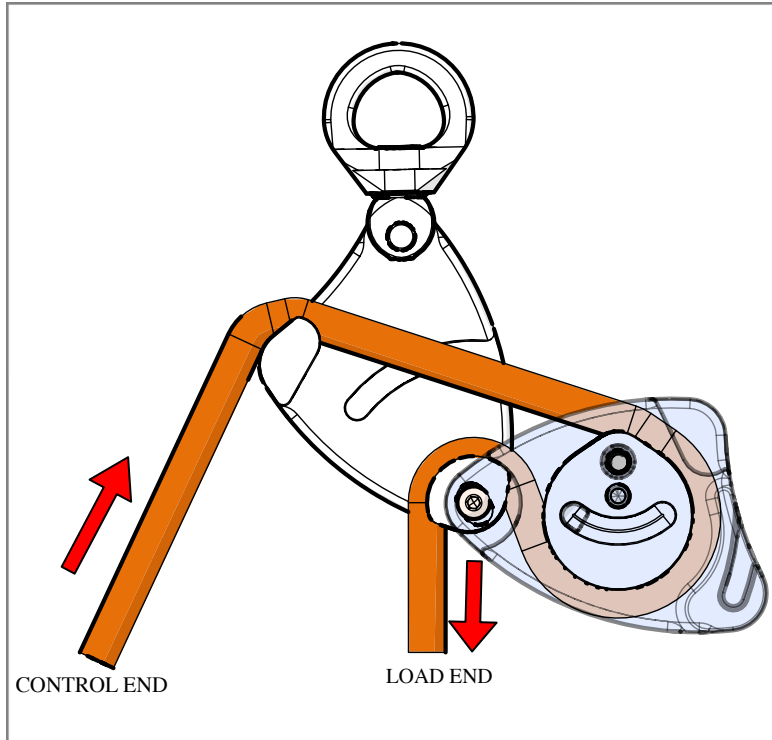

FIG.5
Configuration 2 (Fig. 5): The rope is threaded **over** the fairlead (4), over the pivoting bollard (3), and between the pivoting bollard and fixed bollard (5). This configuration provides **less** friction for lowering lighter loads as well as less friction hauling back slack line. It is useful in very tall rigging setups where the excess weight of the line in the system activates friction on lowering and haul back. This configuration also allows limited lifting of light loads (this is the preferred configuration for lifting utilizing a double whip tackle system).